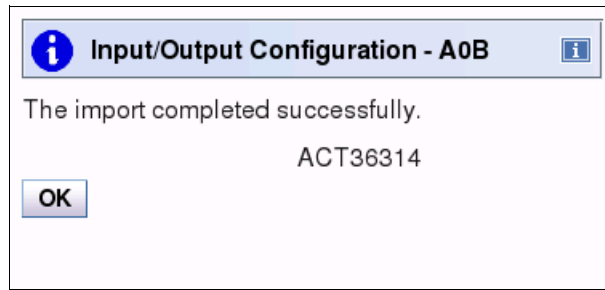

Figure 7-86 HMC - SAIOCP: source file imported
14. The source file is now read from the USB drive. Click **OK** (Figure 7-86).